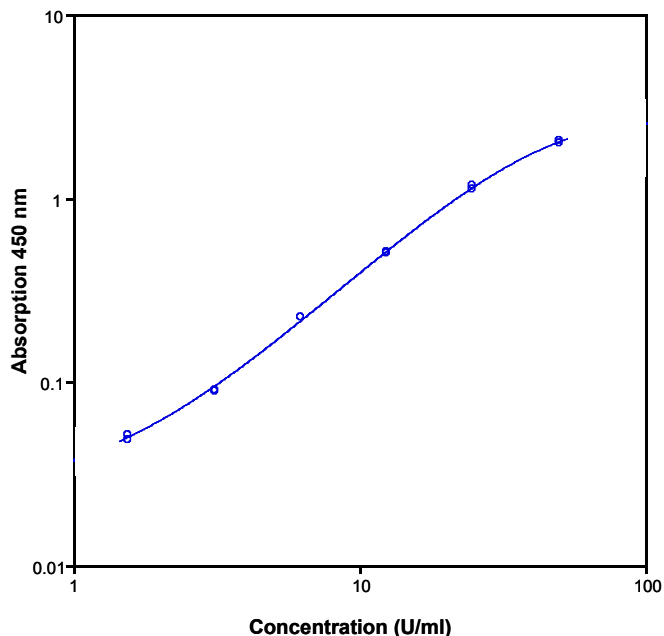

Fig. 8 Representative standard curve for human PSGL-1 ELISA. Human PSGL-1 was diluted in serial 2-fold steps in Sample Diluent.
- A representative standard curve is shown in Figure 8.